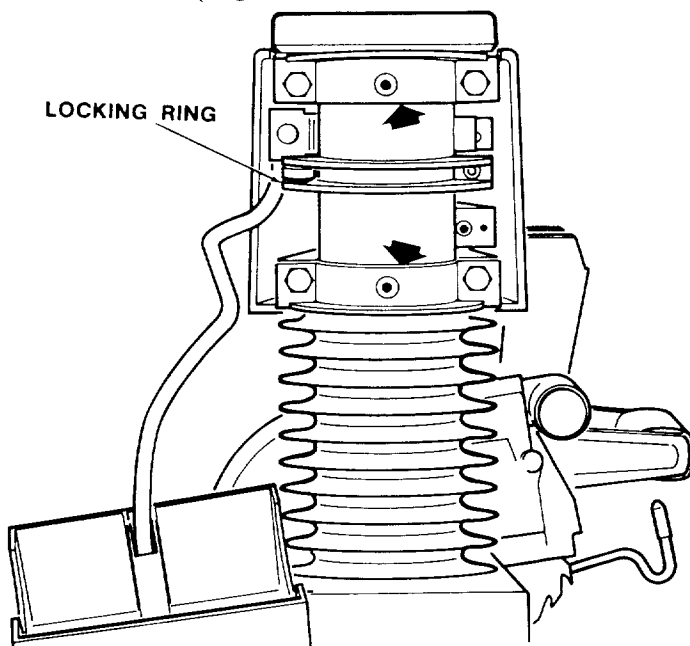

Fig. 130 - Bearing Points Where Arm Attaches to Column Tube
- Lubricate the bearing points where the *arm* attaches to the *column tube*. With a #2 Phillips screwdriver remove two screws and the rear arm cover for access to these points. Be careful not to get lubricant on the *locking rings* as this will adversely affect the miter locking function. (Figure 130)